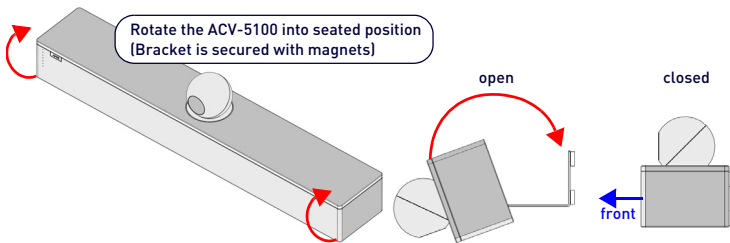

FIG. 7 ROTATING THE ACV-5100 INTO ITS SEATED POSITION
- Remove the Bracket from the ACV-5100 (see FIG. 7 on page 9).
4. Rotate the ACV-5100 into seated position. The Bracket is secured with magnets (FIG. 7).
After connecting all cables, close the Bracket to return the ACV-5100 to its seated position. The Bracket is secured via internal magnets (FIG. 7):